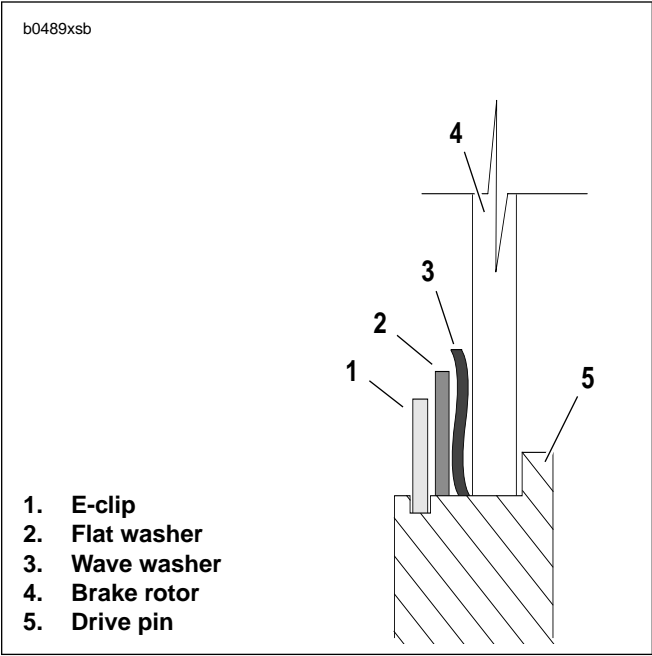
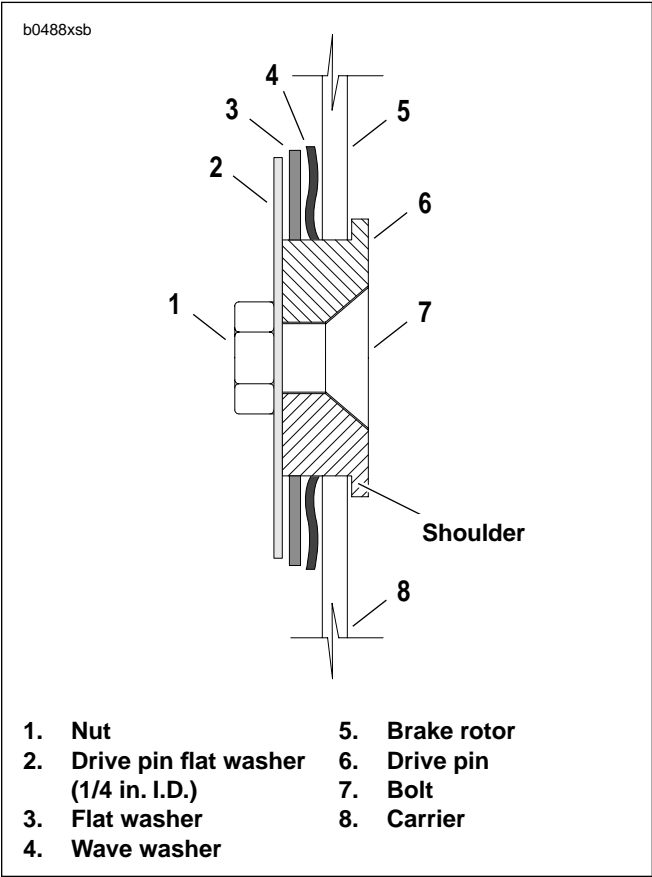

Figure 1. Drive Pin Assembly
Figure 2. New Drive Pin Assembly
2. See Figure 1. Remove existing drive pin assemblies two at a time.
- a. Gently pry E-clip (1) away from drive pin (5).
- c. Remove and discard flat washer (2), wave washer (3) and drive pin (5).
3. See Figure 2. Install **new** drive pin hardware through rotor (5) and carrier (8).
- a. Place drive pin (6) between rotor and carrier. Shoulder on drive pin faces away from wheel hub.
- b. Insert bolt (7) through drive pin (6).
- c. Install wave washer (4) on back side of rotor.
- d. Install flat washer (3).
- e. Install drive pin flat washer (2).